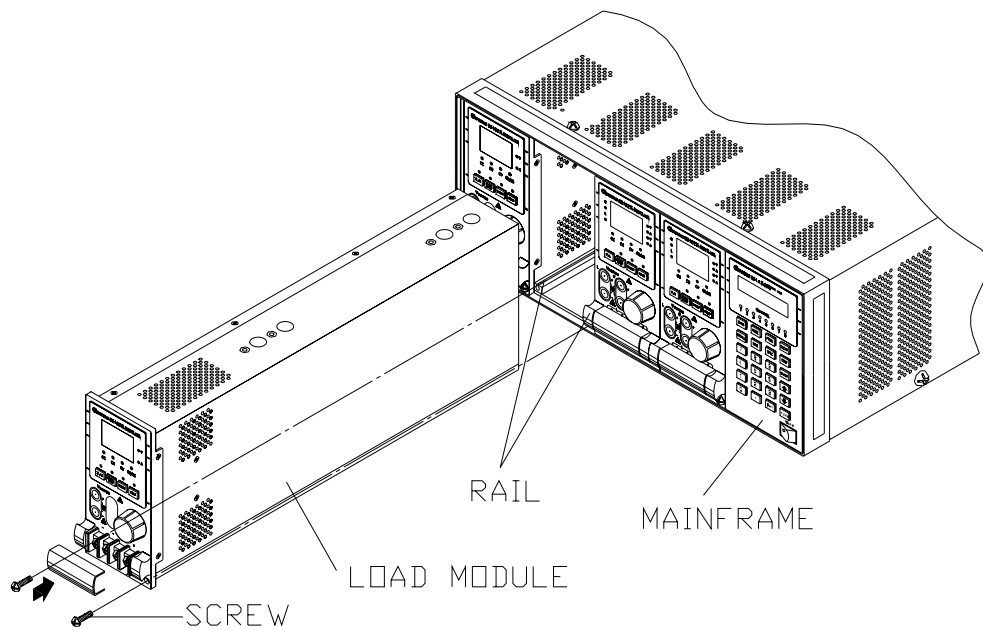

Figure 2-1 Installing Modules in the Electronic Load
3. Start installing the modules in the slot (see Figure 2-1).
5. Lock the module in place by use of the screwdriver (see Figure 2-1).